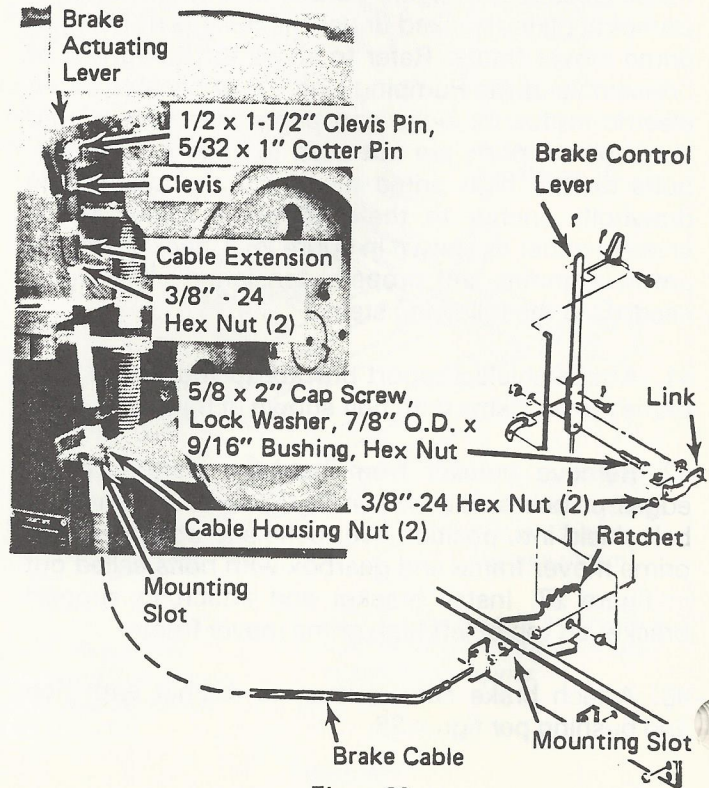

Figure 28
43. Attach brake control lever to ratchet with bolt and bushing per figure 28.
44. Insert brake cable from front side through hole in high prime mover cross member shown in figure 28. Loosen cable housing nuts and place housing in mounting slot, then tighten nuts against slot. Install a nut on end of cable pull and attach to link on control lever with another nut.